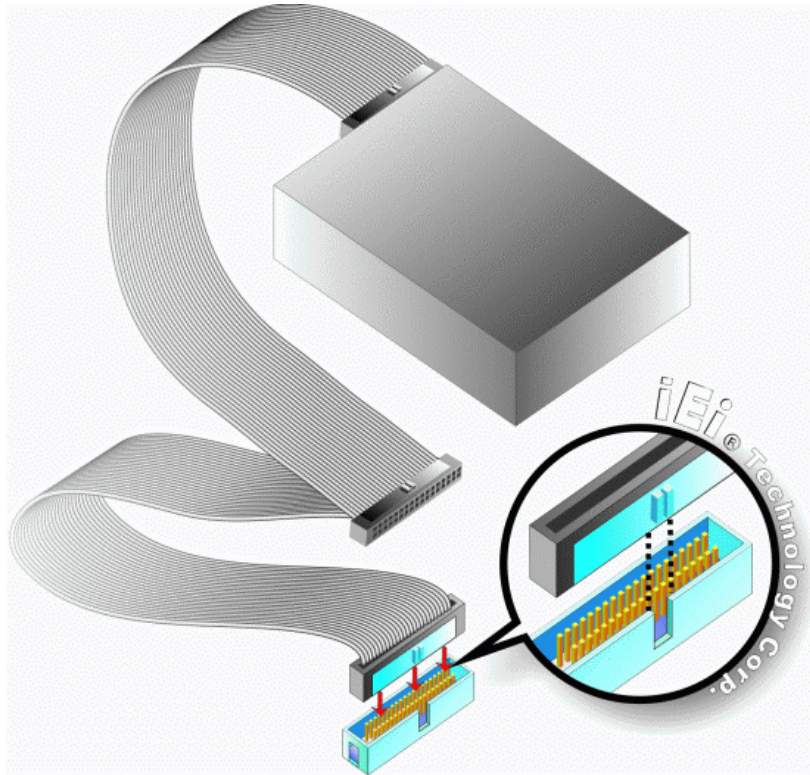

Figure 5-12: IDE Cable Connection
Step 2: Insert the connector. Connect the IDE cable connector to the onboard connector. See **Figure 5-12**. A key on the front of the cable connector ensures it can only be inserted in one direction.